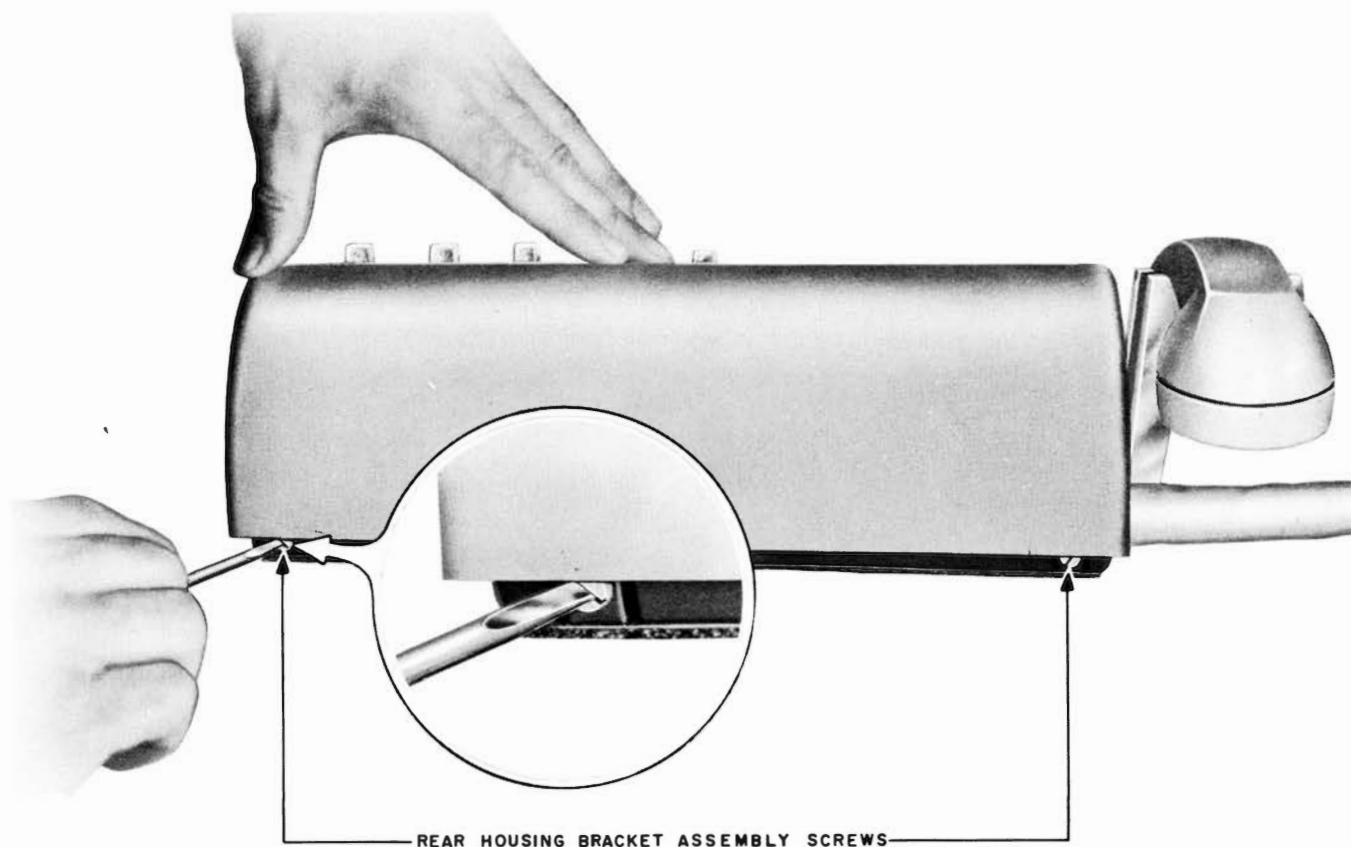

Fig. 8 — 601-Type Telephone Set Showing Method of Disengaging Rear Housing Brackets
1. Loosen screws at rear of telephone set base (Fig. 8).